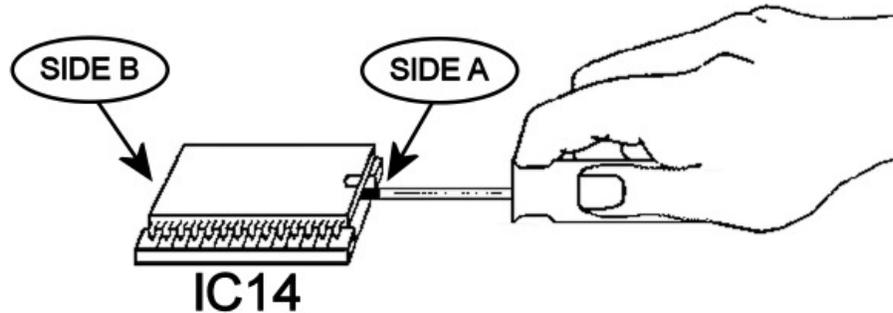

FIGURE 4
- (5) Before removing IC14 from its socket, note the location or direction of the notch of IC14. As you are facing the unit, the notch of IC14 should be positioned so that it points to the right hand side of the DX7. Now carefully place the blade of the small flat-blade screwdriver between the IC14 and its socket. Gently pry up IC14, first on one side (SIDE A) and then on the other (SIDE B) as shown in **FIGURE 4**. Repeat the process until IC14 is freed from the socket and put it aside.